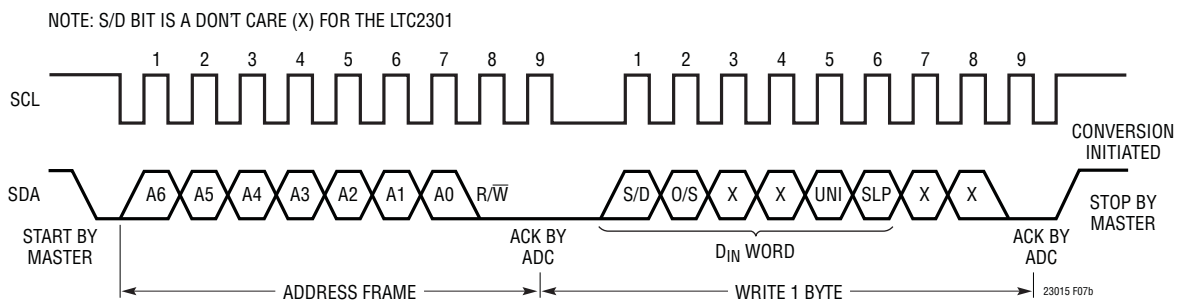

Figure 7b. Timing Diagram for Writing to the LTC2301/LTC2305
The software compatible LTC2301/LTC2305/LTC2309 family features a 6-bit DIN word to program various modes of operation. Don't care bits (X) are ignored. The SDA data bits are loaded on the rising edge of SCL during a write operation, with the S/D bit loaded on the first rising edge and the SLP bit on the sixth rising edge (see Figure 7b in the I2C Interface section). The input data word for the LTC2305 is defined as follows:
When the LTC2301/LTC2305 is addressed for a write operation, it acknowledges by pulling SDA low during the low period before the 9th cycle and acts as a receiver. The master/transmitter can then send 1 byte to program the device. The input byte consists of the 6-bit  $D_{IN}$  word followed by two bits that are ignored by the ADC and are considered don't cares (X) (see Figure 7b). The input bits are latched on the rising edge of SCL during the write operation.